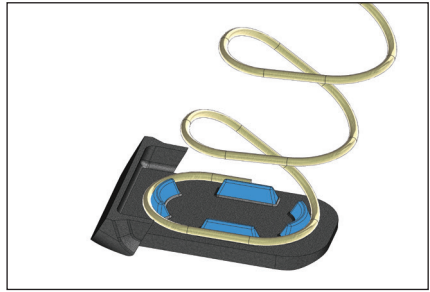

Figure 34
3. Place the locking plate onto the protruding end of the magazine spring so that the spring is around all of the pyramids (See Figure 34).